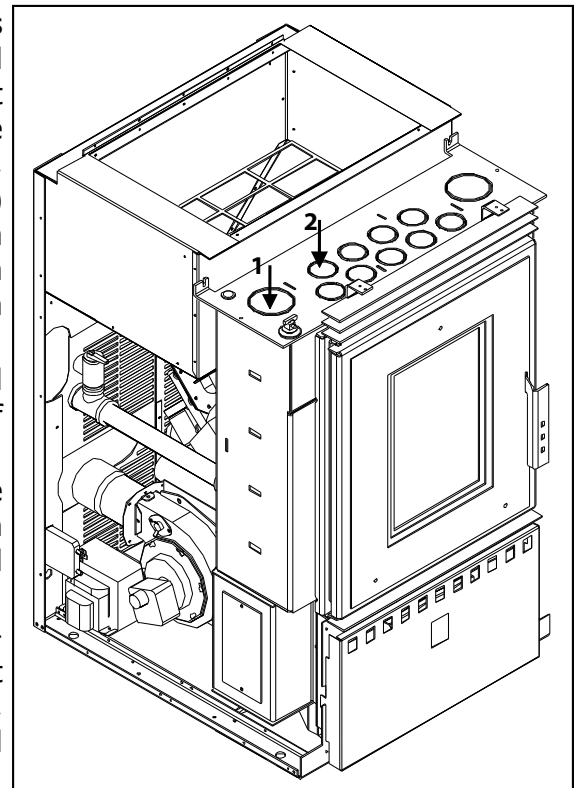

Figure 12
5. Clean the tubes referred to in Figure 12 as #1; one on each side. Use a 3" (75 mm) cleaning brush to scrub the tubes from top to bottom until buildup is removed.
6. Clean the tubes referred to in Figure 12 as #2; nine total. Use a 2" (50 mm) cleaning brush to scrub the tubes from top to bottom until all buildup is removed.